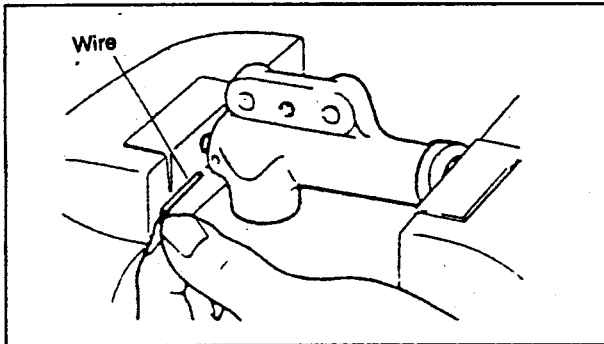

Fig. 156. — Pre-tension the automatic tensioner before installation.
- Insert a piece of wire of 1.4 mm (0.055 in.) into the two holes as shown in Fig. 156 to lock the push rod (plunger) inside the tensioner body. The wire should have a loop to be able to withdraw it later on. Remove the tensioner from the vice and fit it to the front of the engine, with the wire in position. Tighten the bolts to 2.0 - 2.7 kgm (14.5 - 19.5 ft.lb.).